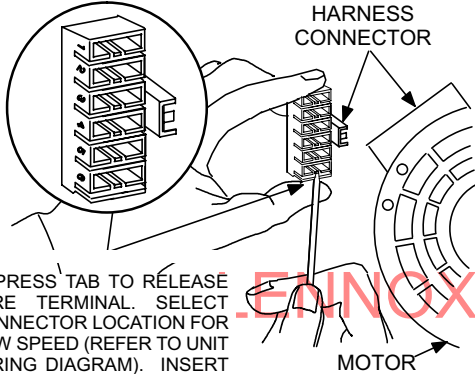

FIGURE 50
- 6 - Depress harness connector tab to release wire terminal. Select connector location for new speed (refer to unit wiring diagram). Insert wire terminal until it is securely in place. See figure 50.